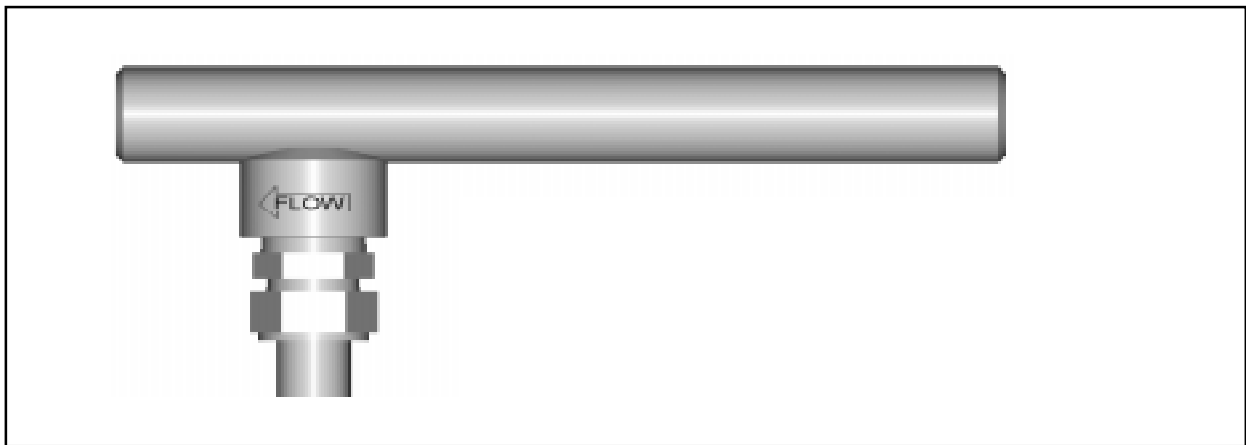

Figure 2-2. Model ST98 In-Line Butt Weld Mount
Figure 2-2 shows a Butt Weld, 2 inch Schedule 40 pipe, in-line model ST98:
1. Verify that the process media flow is in the same direction as the flow arrow (see Figure 2-2).